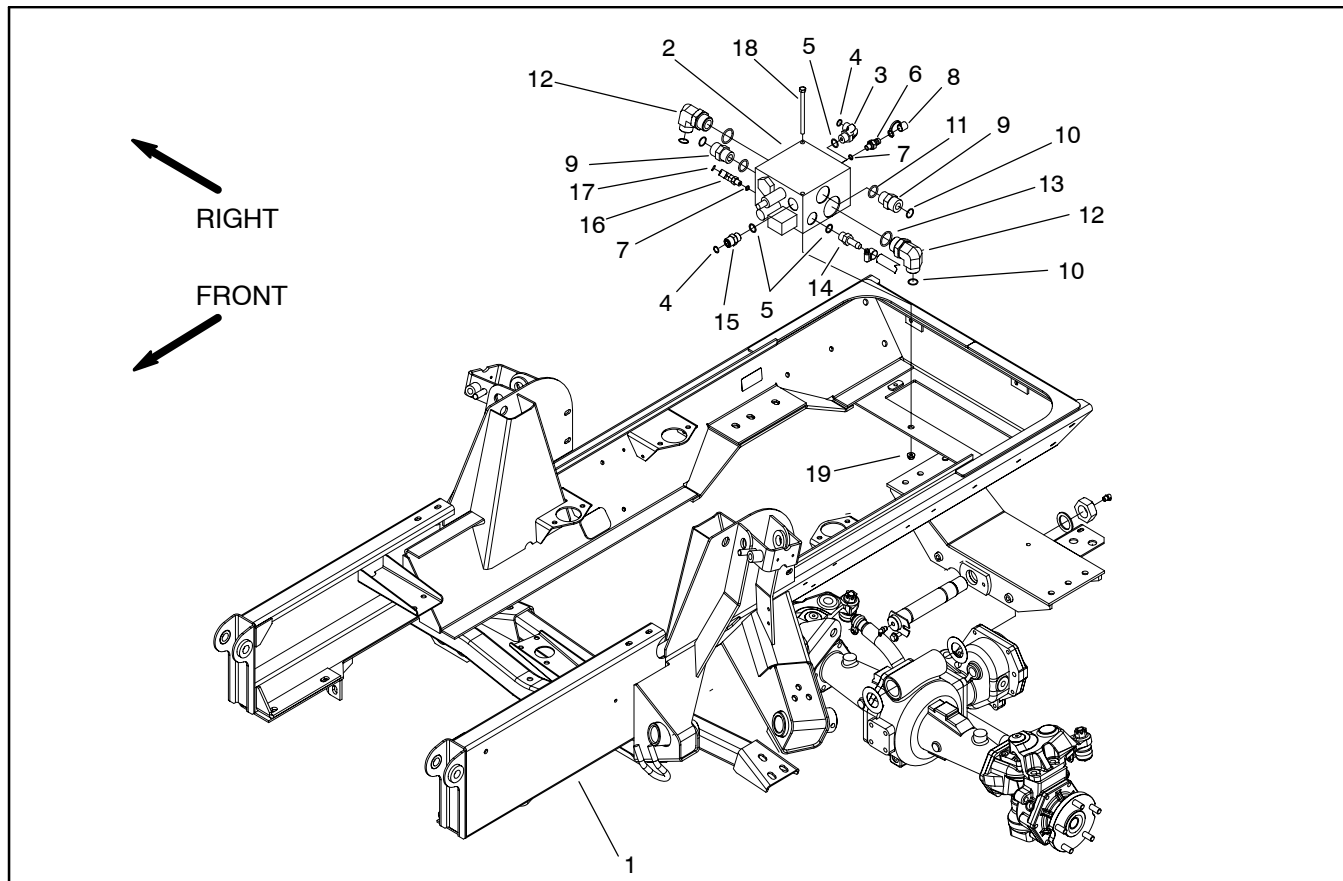

Figure 49
4. Remove hydraulic manifold from the frame using Figure 49 as guide.
1. Install hydraulic manifold to the frame using Figure 49 as guide.